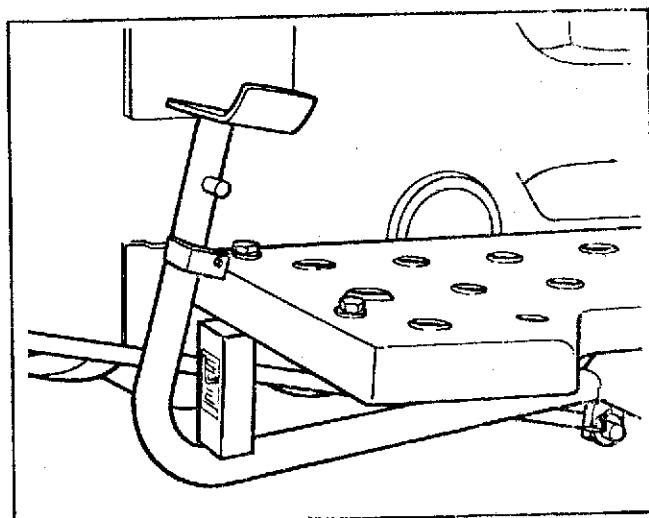

Figure 60 — Installing Pedal Spacer
10. Place the pedal spacer (Figure 60) between the clutch pedal and foot plate to separate clutch disc from flywheel.